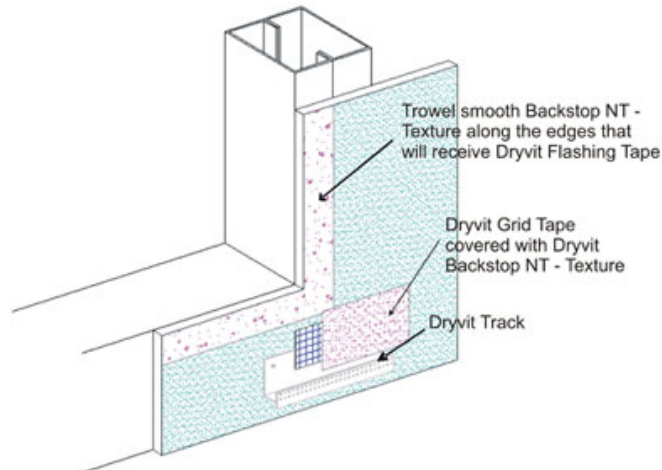

Figure 3
- 4) While the Backstop NT-VB is still wet, using a trowel or spatula, smooth out the Backstop NT-VB around all window and door perimeters and other areas that will later receive Dryvit Flashing Tape – Figure 3.
- 4) While Backstop NT-VB is still wet, using a trowel or spatula, smooth out the Backstop NT-VB around all window and door perimeters and other areas that will later receive Dryvit Flashing Tape – Figure 3. Allow to dry until firm to the touch.